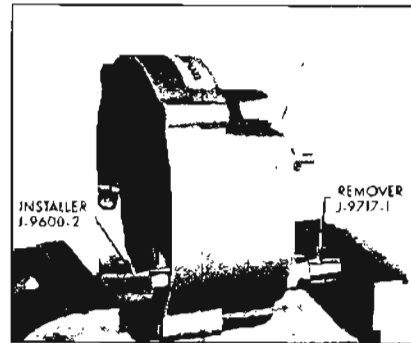

Figure 10-13—Installing a Diode
2. To install a diode, place new diode in Installer J-9600-2. Place slip ring end frame in a vise so that new diode is in position and Remover J-9717-1 supports casting. See Figure 10-13. Tighten vise to install new diode. **CAUTION: Never attempt to remove or install a diode by striking it,**